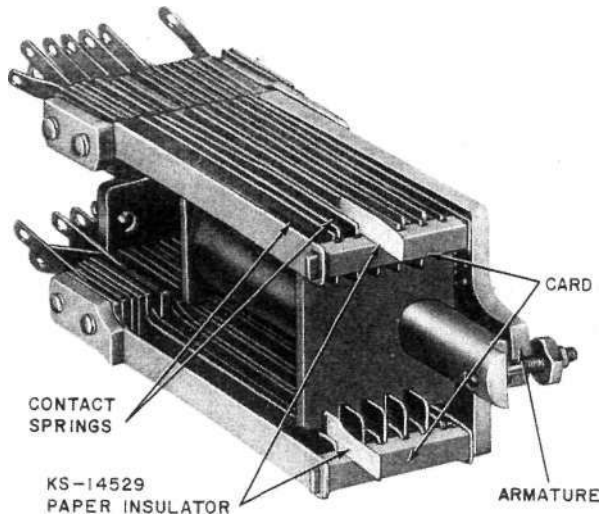

Fig. 45—Insulating Contacts of UB-Type Relays
5.05 Insulating Contacts of UB-Type Relays: Fig. 45—Insulate contacts by inserting a KS-14529 paper insulator as follows. Insert the short leg of the insulator downward